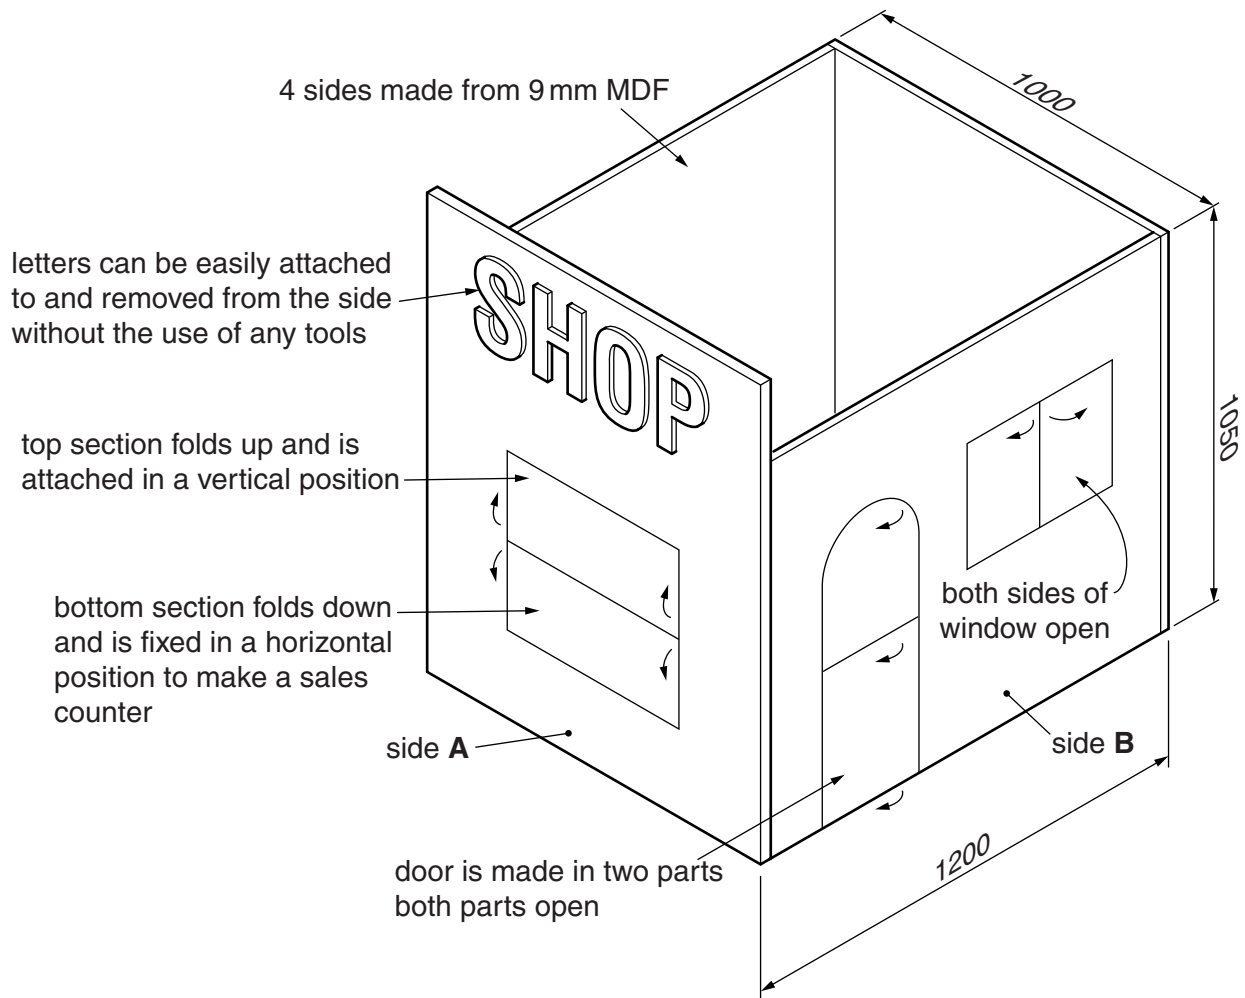

Fig. 9
- 9 Fig. 9 shows an incomplete idea for a toy shop which will be used by children aged 3–6 years old.